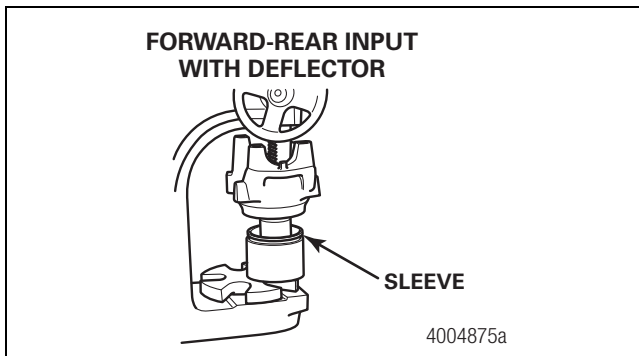

Figure 5.102
5. Apply a light coat of axle oil to the yoke seal journal. Position the sleeve into the forward-rear axle input yoke sleeve driver. Do not touch the greased areas of the sleeve. The sleeve must be kept clean prior to assembly into the seal. Use an arbor press and the appropriate driver to install the sleeve into the yoke. Verify that the sleeve is fully-seated in the yoke. Figure 5.102.